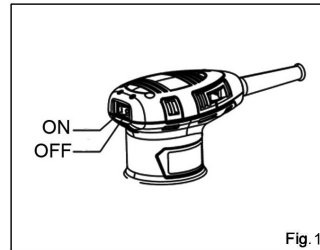

Fig. 1
2. To make you feel comfortable, lock the switch in "ON" position during the operation. and make sure to grip the tool firmly. (Fig. 1)